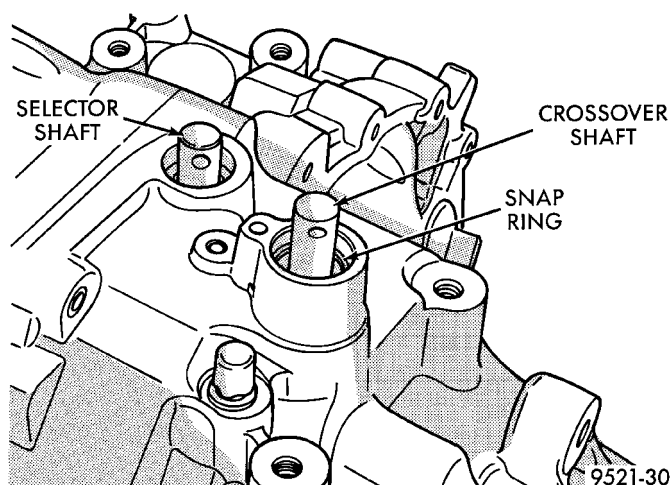

Fig. 134 Crossover Shaft Snap Ring
- (1) Disassemble transaxle using the procedure outlined in this group.
- (2) With the transaxle disassembled, remove the crossover shaft seal.
- (3) Using snap-ring pliers, remove the snap ring at the crossover shaft bore (Fig. 134).